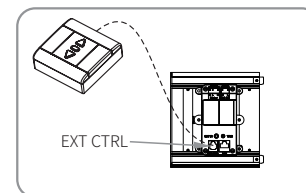

Figure 22
3. Low-Voltage Dry Contact Wall Switch (Optional) (Figure 22)